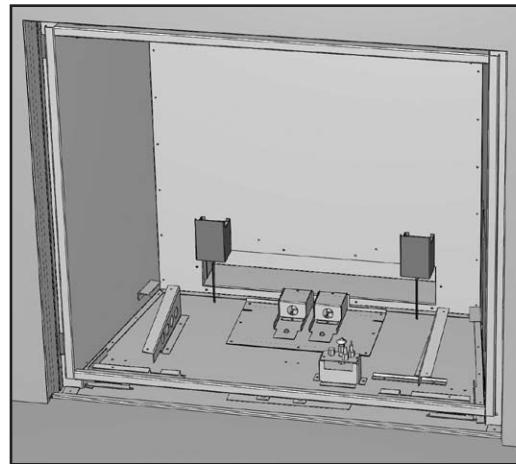

Figure 96: Porcelain Light Covers in Place.
- Ensure the light covers provided with your kit are installed on the Light Cover Bases at the rear of the firebox. The tabs on the back of the Light Cover slide down behind the light cover base. Refer to Figures 96 and 97.
1. Install the porcelain Light Covers over the Light Cover Base. The tabs on the back of the Light Cover slide down behind the Light Cover Base. Refer to Figures 96 & 97.